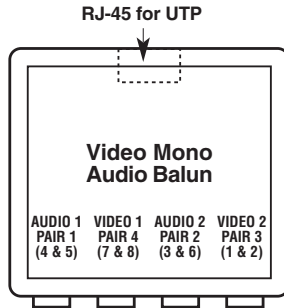

Figure 3-1. The Balun and its connectors.
- 5A. *If your application is two-way (that is, one pair of audio/video signals going one direction and one pair going the other direction):* Run four RCA phono cables from each balun to the attached device: one to the device's VIDEO AUX IN port, one to the device's VIDEO AUX OUT port, one to the AUDIO IN port, and the fourth to the AUDIO OUT port. (These cables must have RCA male connectors on the Balun end.) Make sure that the VIDEO IN and AUDIO IN ports on one end are connected to the VIDEO OUT and AUDIO OUT ports on the other. Refer to Figure 3-1 on the next page.
- 5B. *If your application is one-way (that is, both pairs of audio/video signals going the same direction):* Run four RCA phono cables from each Balun to the attached device. On the source devices, these cables should go to the VIDEO AUX OUT and AUDIO OUT ports; on the destination devices, these cables should go to the VIDEO AUX IN and AUDIO IN ports. (These cables must have RCA male connectors on the Balun end.) Refer to Figure 3-1 below.